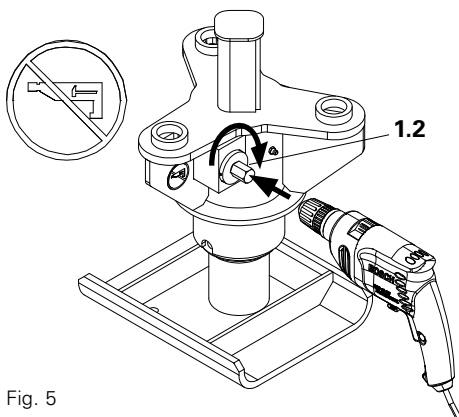

Fig. 5
3. In order to completely extend the Lowering Device, turn the Driving Bolt (1.2) clockwise as far as possible. (Fig. 5)